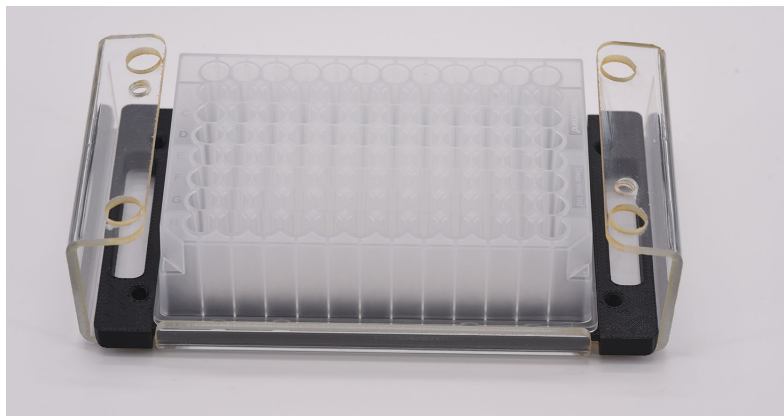

Figure 111 Array docking station with 96-deep well tray
- 3 Place a 96-deep well tray (Agilent part #P60-20 or Fisher part # 12-566-120) into the array docking station with tray base (**Figure 111**).